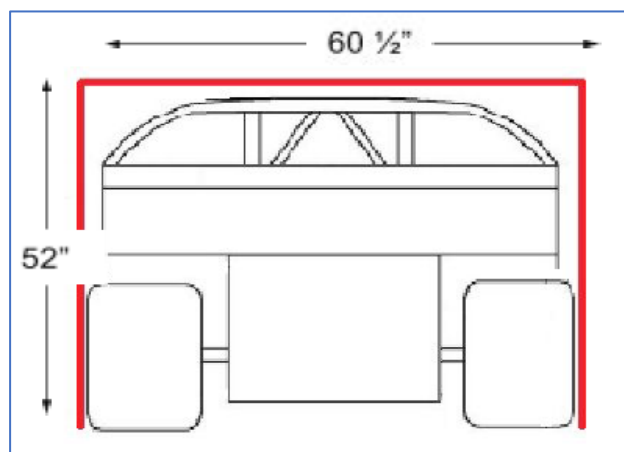

Figure 1
6.8 All cars must pass freely (not touch) through a hoop 60.5" wide by 52.0" high, in full race trim, weighing 1325Lbs or greater with driver in the car (*Figure 1*).